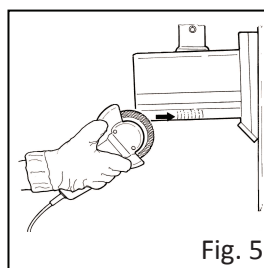
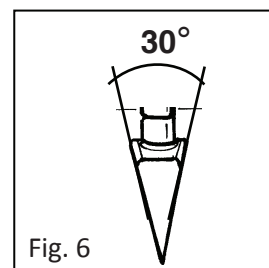

Fig. 5
Fig. 6
**Do NOT modify the edge and the outside spokes of the 30° fixed cutter (see Fig. 6) with any kind of tool (such as a flexible pipe, see Fig. 5).**